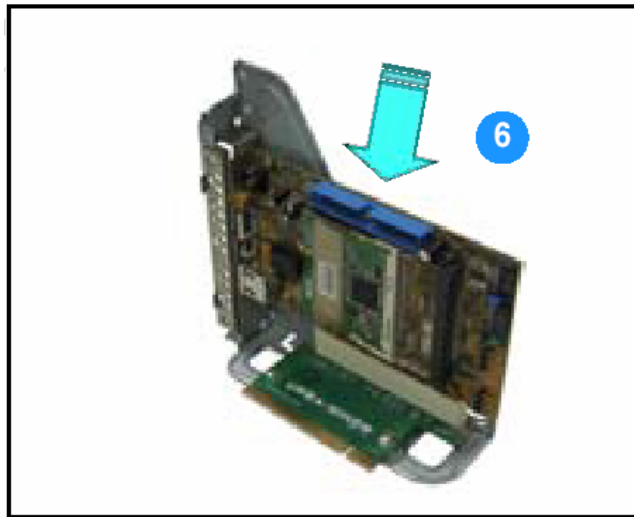

Figure 24: Installing the PCI Card
5. Remove the screw securing the card slot cover (see Figure 24). Keep the screw for later use.